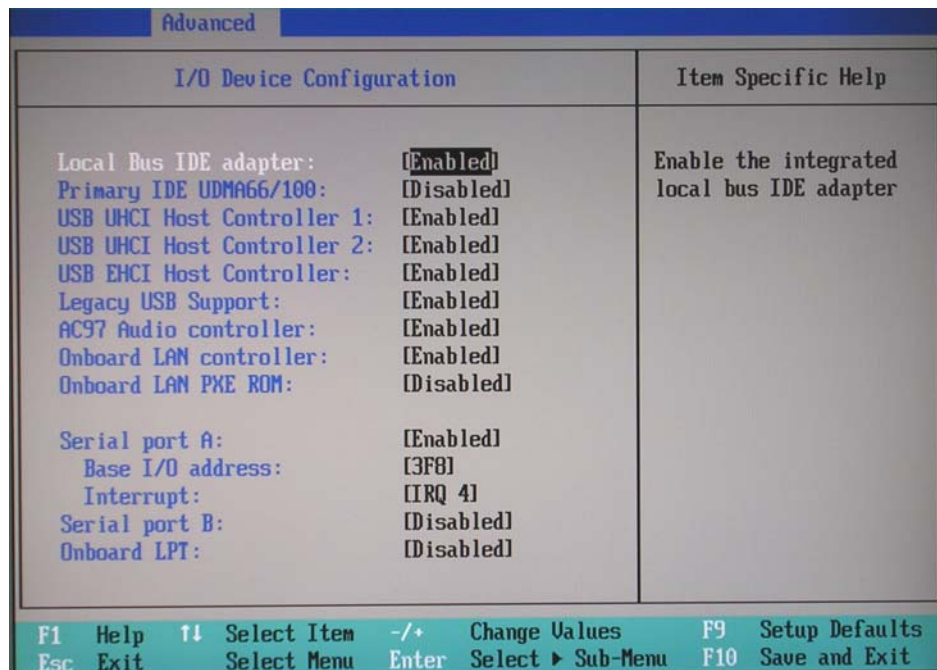

Figure 8-60 BIOS Advanced I/O Device Configuration Parameters
Memory Cache	Figure 8-60 on page 8-72
I/O Device Configuration	Figure 8-60 on page 8-72
- 12.) Set the parameters in the **I/O Device Configuration** screen as shown above in Figure 8-60.